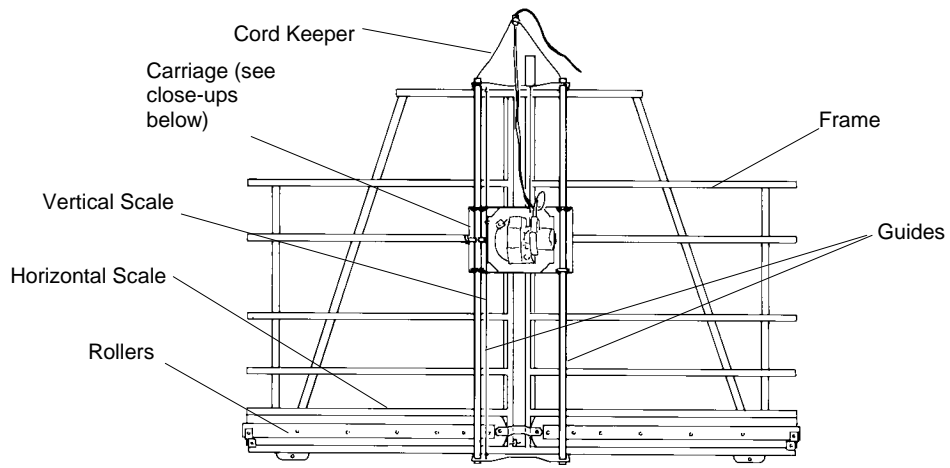
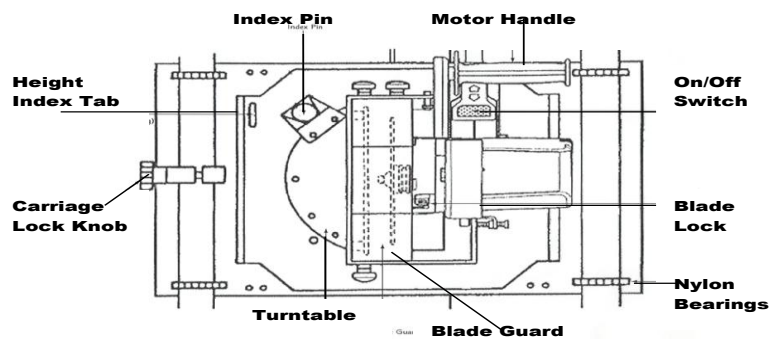
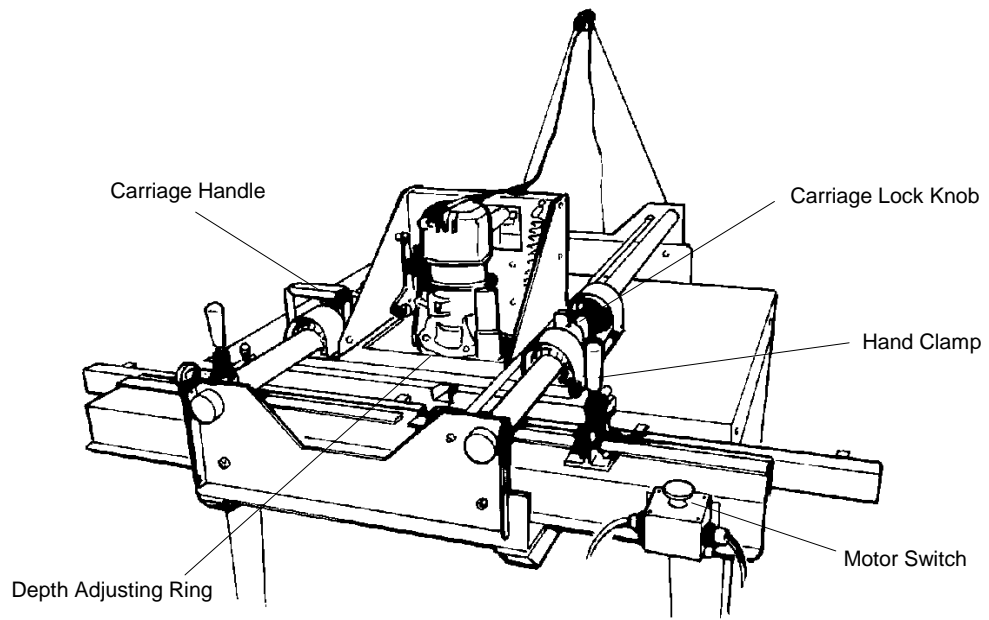

Figure 12: Main Components of Saw or Router (Model H-5 Saw Shown)
Figure 13: Carriage (Models C4, C5, H4, H5, and H6 Saws)
Figure 18: Model TR2 Router
3. Hold the carriage securely while you loosen the red carriage lock (Figure 13 through Figure 18). Raise the carriage until the hole in the top of the carriage aligns with the eye in the end of the counterbalance cable, making sure the cable is **behind** the carriage. Then lock the carriage rip lock.
Refer to Figure 12 through Figure 18 for the location of operator controls on each model saw and router.